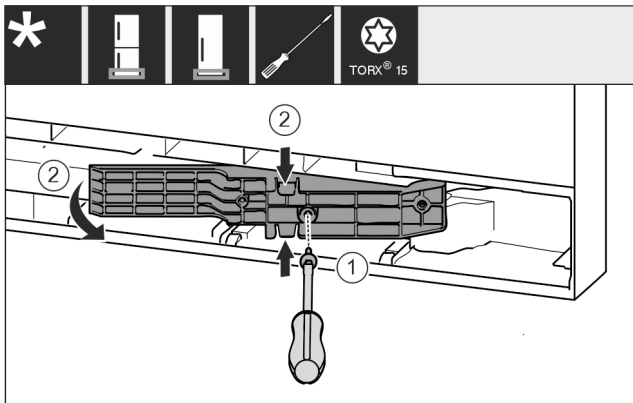

Fig. 18 *
- ▶ Loosen the screws with the T15 screwdriver. Fig. 18 (1)*
- ▶ Pull out the adapter. Fig. 18 (2)*